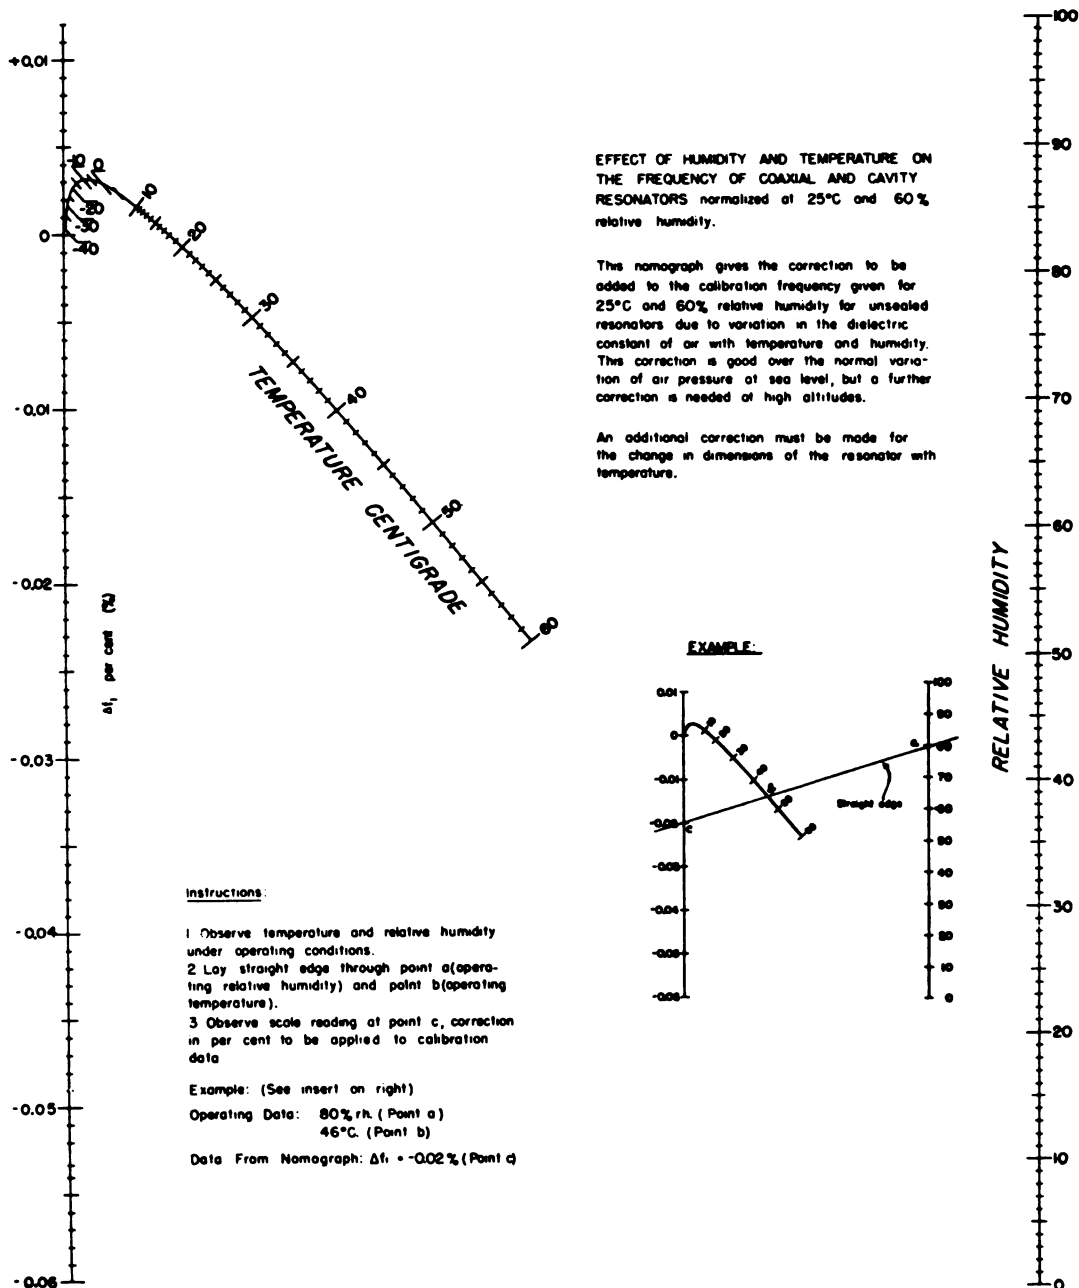

Figure 3-15. Frequency Meter Corrections for Dielectric Changes Due to Temperature and Humidity
(See figures 3-15 and 3-16.)
a. DETERMINE CORRECTION FOR DIELECTRIC CHANGE. (Use figure 3-15.)